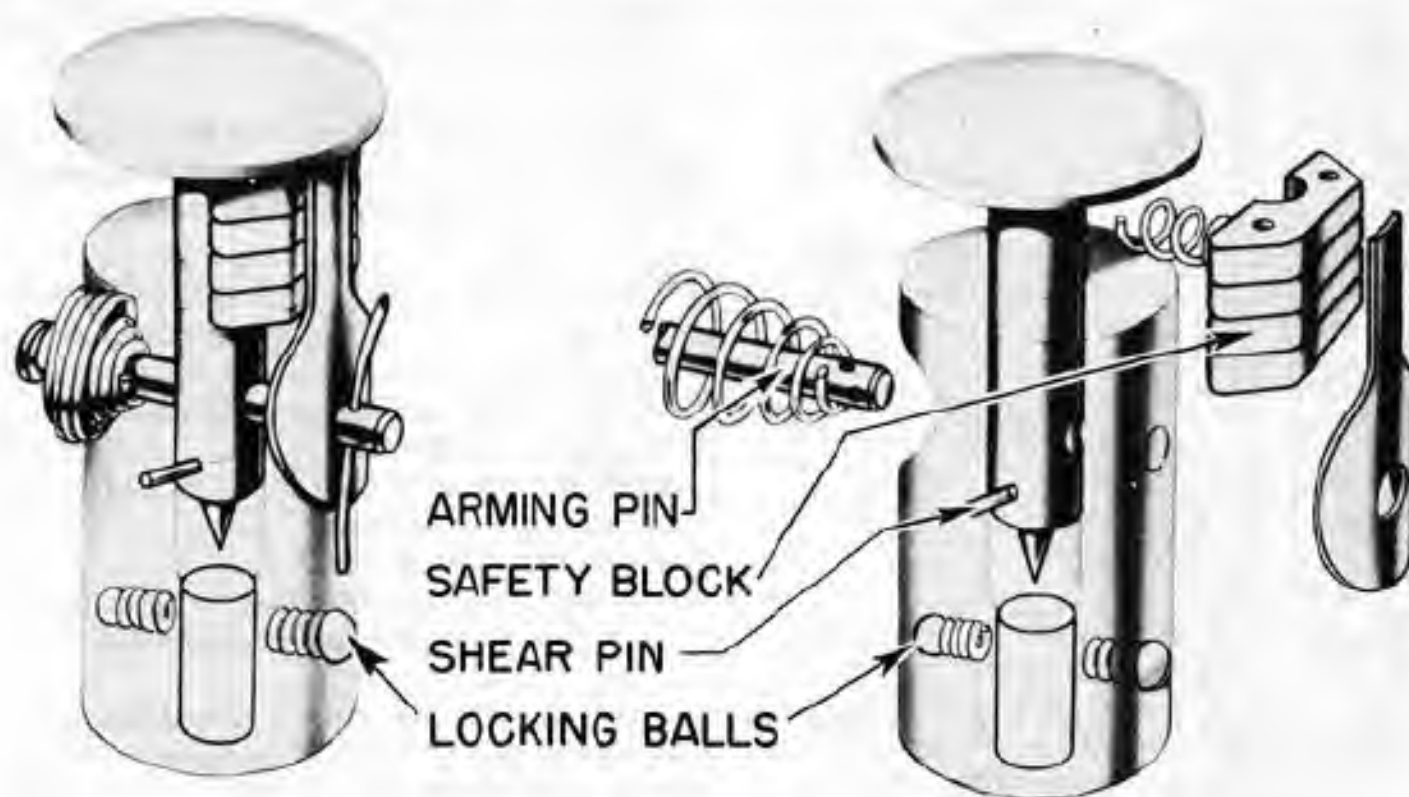

Figure 333. Nose Fuze M-108
**Early design:** The early M108 did not have a safety block inserted between the striker head and the fuze body, and was quite dangerous, as a drop of only a few inches on a hard surface was enough to activate the fuze. The M108 Modified is shipped with the safety block as shown in figure 333.